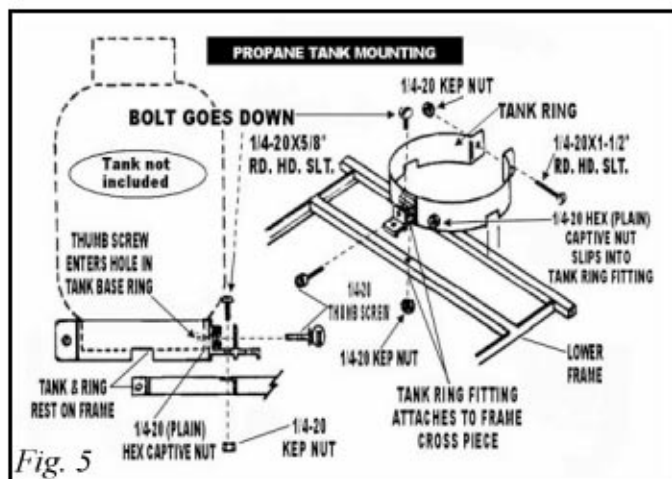

Fig. 5
**Step 3: Tank Holder Ring Assembly For LP Gas Models (Fig. 5)**
### Step 1: Deck/Patio Base Mounting Assembly (Fig. 5)